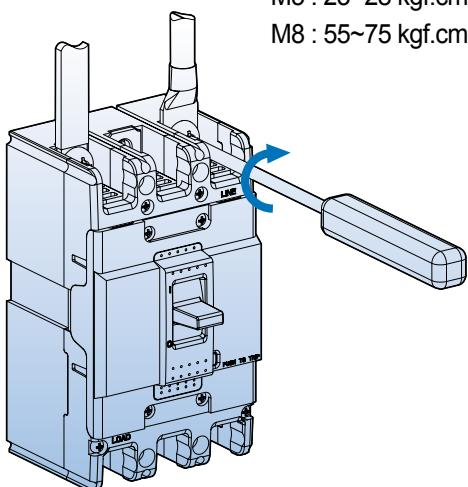

Fig. 5
5. As seen in Fig. 5, please install the insulation barrier enclosed with the product.